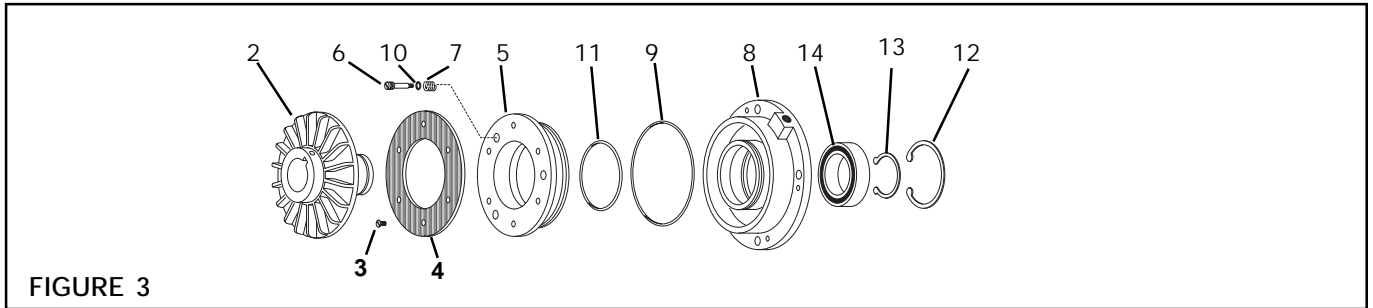

FIGURE 3
Facing (See Figure 3).
1. Remove the Retaining Ring (Item 13) and press the Hub Assembly (Item 2) out of the Ball Bearing (Item 14) and Air Chamber (Item 8) (See Figure 3).
2. Remove the Retaining Ring (Item 12) from the Air Chamber (Item 8); then, press the old Ball Bearing (Item 14) out of the Air Chamber (See Figure 3).
3. Remove the six old Flat Head Machine Screws (Item 3) securing the old Friction Facing (Item 4) to the Piston (Item 5); then, remove the Friction Facing (See Figure 3).
4. Remove the old Shoulder Bolts (Item 6), O-ring Seals (Item 10), and Compression Springs (Item 7) from the Piston (Item 5) (See Figure 3).
5. Slide the Piston (Item 5) out of the Air Chamber (Item 8) and remove the O-ring Seals (Item 9 and 11) from the Piston and Air Chamber (See Figure 3).
7. Apply an adequate amount of Loctite® 680 to evenly coat the outer race of the new Ball Bearing (Item 14) and press the new Ball Bearing into the Air Chamber (Item 8) (See Figure 3).
8. Reinstall the Retaining Ring (Item 12) (See Figure 3).
9. Apply a thin film of o-ring lubricant to the new O-ring Seals (Items 9, 10, and 11) and the o-ring contact surfaces of the Piston (Item 5), Air Chamber (Item 8), and new Shoulder Bolts (Item 6) (See Figure 3).
10. Install the new O-ring Seals (Items 9, 10, and 11) (See Figure 3).
11. Slide the Piston into the Air Chamber, aligning the holes in the Piston with the holes in the Air Chamber (See Figure 3).
12. Slide a new Compression Spring (Item 7) onto each new Shoulder Bolt (Item 6) (See Figure 3).
13. Install the new Shoulder Bolts (Item 6), Compression Springs (Item 7), and O-ring Seals (Item 10) through the Piston (Item 5) and into the Air Chamber (Item 8) (See Figure 3).
14. Alternately and evenly tighten the new Shoulder Bolts (Item 6) to 66 In. Lbs. [7.45 N•m] torque (See Figure 3).
15. Using six new Flat Head Machine Screws (Item 3), secure the new Friction Facing (Item 4) to the Piston (Item 5) (See Figure 3).
17. While supporting the inner race of the new Ball Bearing (Item 14), press the Hub Assembly (Item 2) into the new Ball Bearing and Air Chamber (Item 8) (See Figure 3).
18. Reinstall the Retaining Ring (Item 13) (See Figure 3).